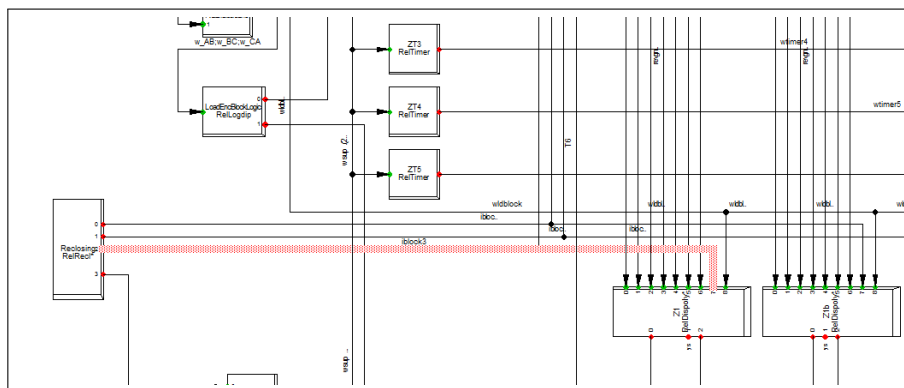

Figure 6.9: iblock signal of the Z1 block
- Release *iblock* input of the *Z1* by deleting connection signal to *Recloser*. This is input 7 of the *Z1*. Signal is marked in figure 6.9.